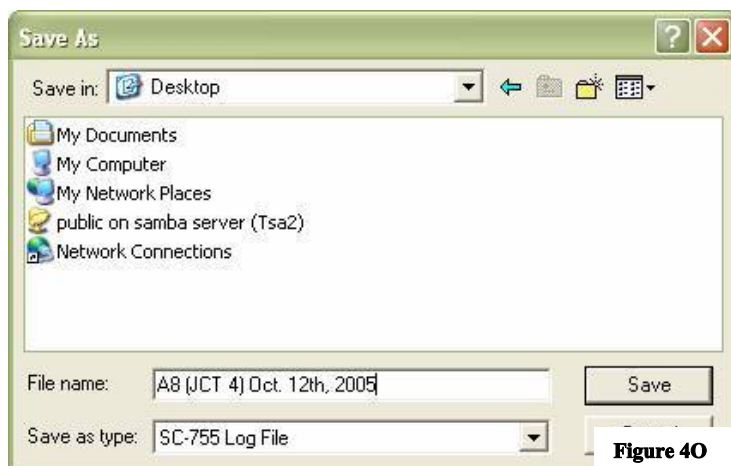

Figure 4O
5. The default setting under "**Download Historical Data**" will have "**All Records**" selected *figure 4O*, leave this setting as it is and click on the "**Download**" button